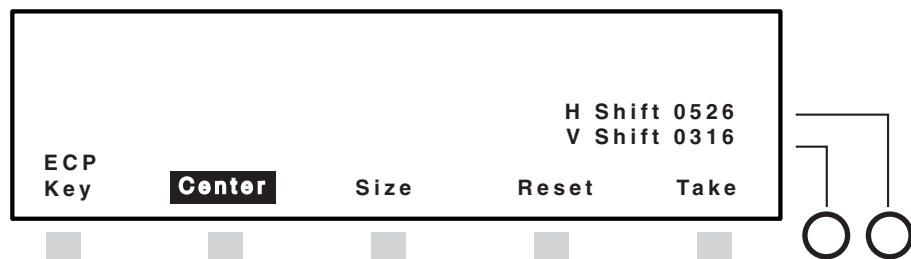

Figure 3-14 — Title box submenu
- The title box submenu is displayed (figure 3-14). The Center button is selected by default.